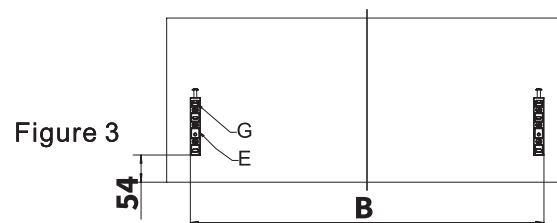

Figure 3
Use ST4X16 screws to install the door panel connector (E) on the door panel according to the size of Figure 3.